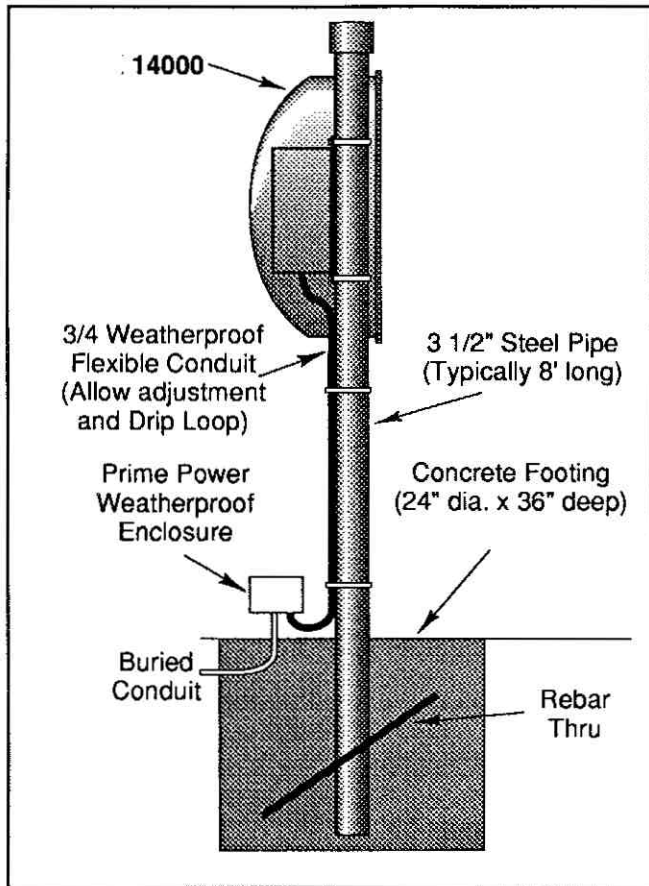

Figure 2: Mounting Post Installation
Each Model 14000 receiver and transmitter is powered by 16.5VAC, 60 Hz. Two plug-in, step-down transformers (120VAC/16.5VAC, 20 VA for domestic applications) are furnished with each 14000 system; each unit draws a maximum of 1.2 amp from the 16.5VAC line. We recommend bringing 120VAC to the base of each post and terminating it in a duplex outlet receptacle that is enclosed in a weather proof box attached to the unit mounting post (see Figure 2). The 16.5VAC line is then run to the receiver or transmitter through flexible conduit. This box can also be used as a junction box for alarm/tamper signal lines. Insure placement of the box does not restrict full vertical movement of the unit, and that it does not block any of the microwave energy.
- a. Each receiver and transmitter must be rigidly mounted to prevent movement of the units during windy conditions. They have been designed to mount on a 3 1/2" O.D. post; typically, the posts are 8' long, 3' of which is buried in a concrete footing that is about 3' deep and 2' in diameter (see Figure 2).